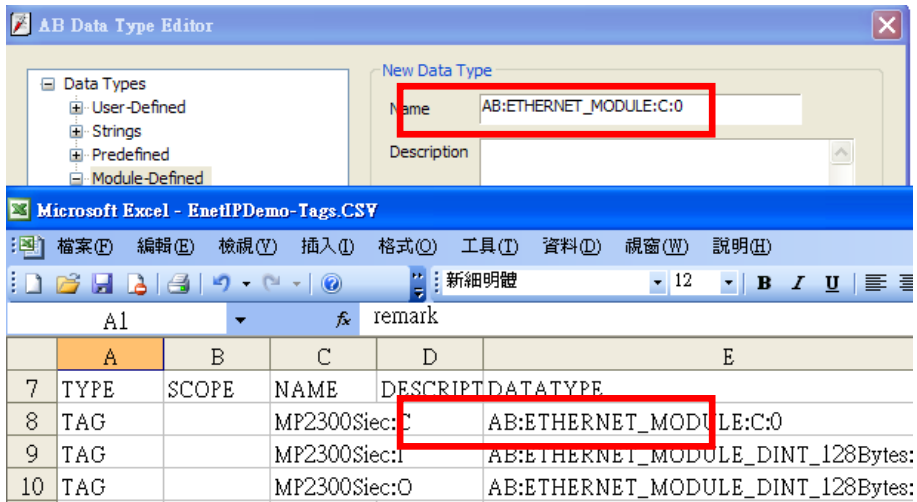
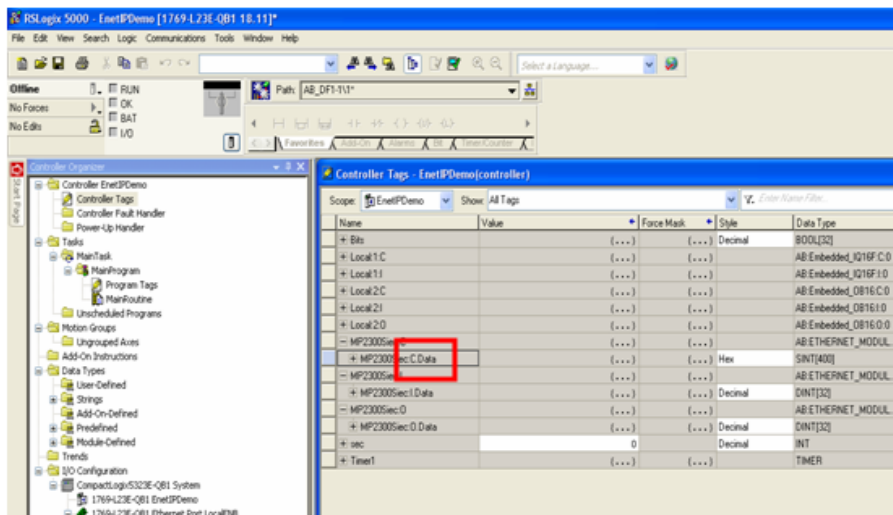
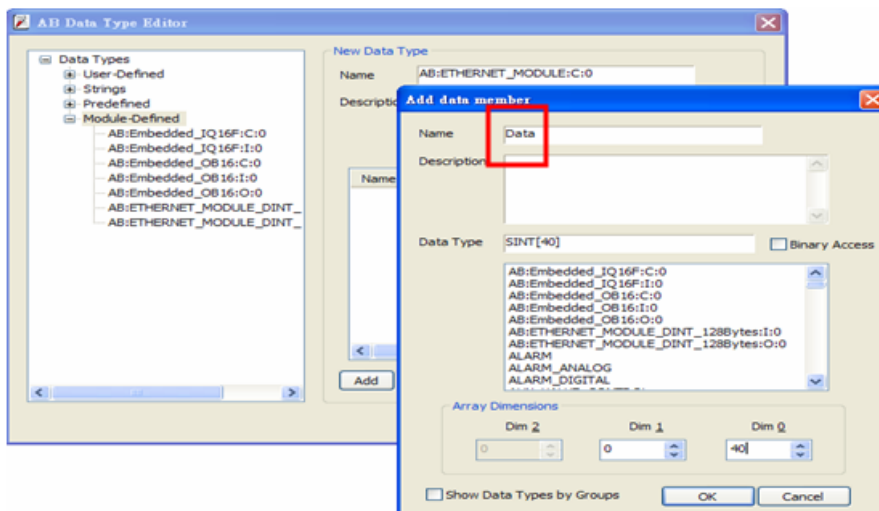
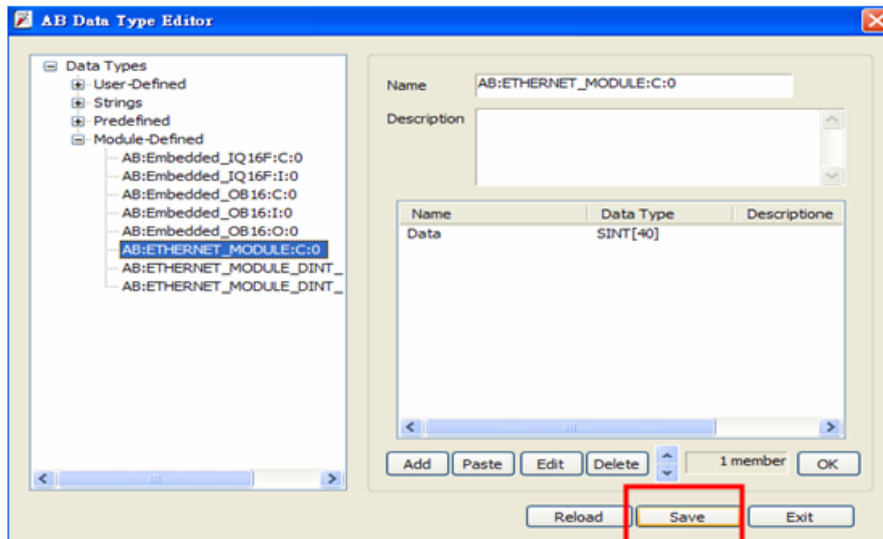

Fig.12 AB Data Type Editor
Fig.13 Tag Information
Fig.14 Add Data Member - Name Tag Information
Fig. 15 Add Data Member-Settings - Save
Step 2. As in Fig 12, in AB Data Type Editor add Name of the new data type. The Name must be set identically to the Data Type in Free Tag CSV file. As in Fig 14, Data Member Name must be set identically to the AB software (as Data in Fig. 13), then click [Save] (Fig. 15).